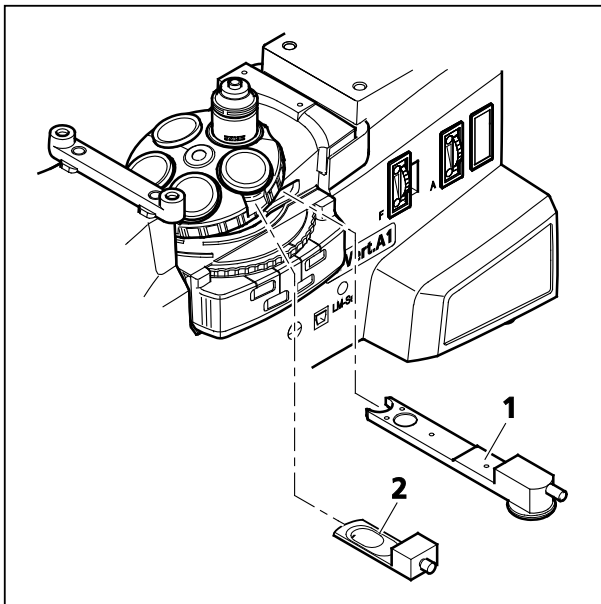

Fig. 4-15 Setting DIC/C-DIC
- Put the DIC slider (Fig. 4-15/2) into the slot of the nosepiece.
- Insert C-DIC slider 6x20 (Fig. 4-15/1) into the slot.